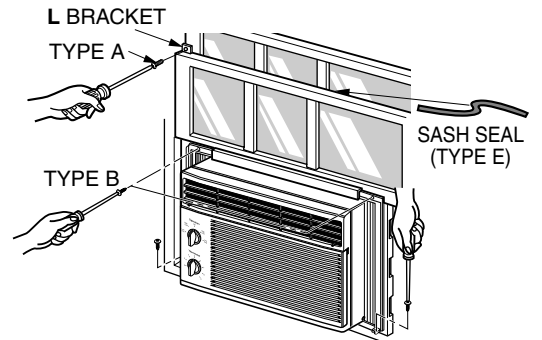

Figure 10
Extend the guide panels (TYPE F) to fill the window opening using 4 screws (TYPE B) to secure them, as shown in Figure. 10.
- a. Cut the sash seal (TYPE E) to the window width. Stuff the sash seal between the glass and the window to prevent air and insects from getting into the room, as shown in Figure. 10.
- b. Fasten the L bracket using a (TYPE A) screw, as shown in Figure. 10.